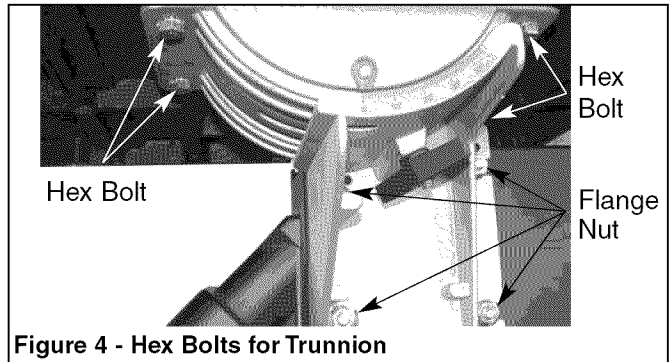

Figure 4 - Hex Bolts for Trunnion
Refer to Figure 4.
- Loosen the four hex bolts mounting the table to the upper table trunnion (see Figure 4).